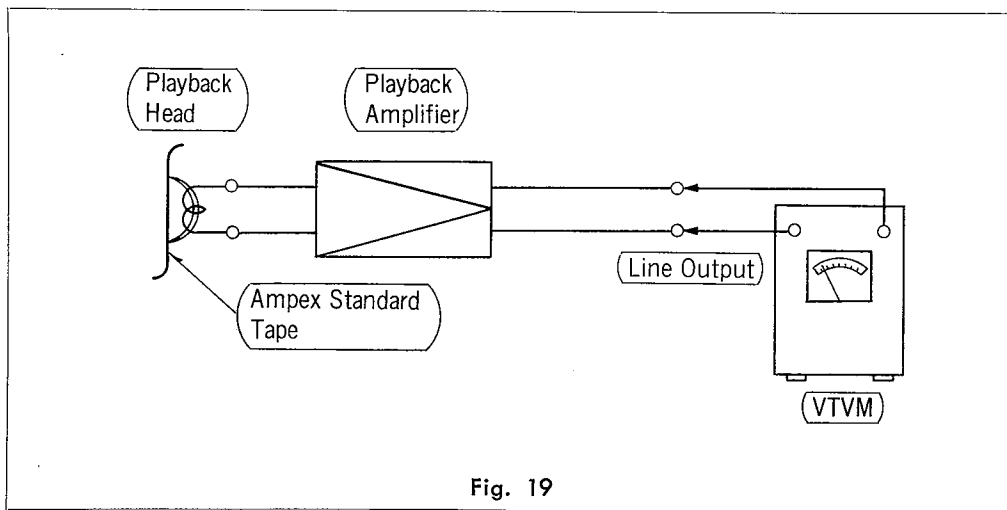

Fig. 19
1. Make the connections shown in Fig. 19.